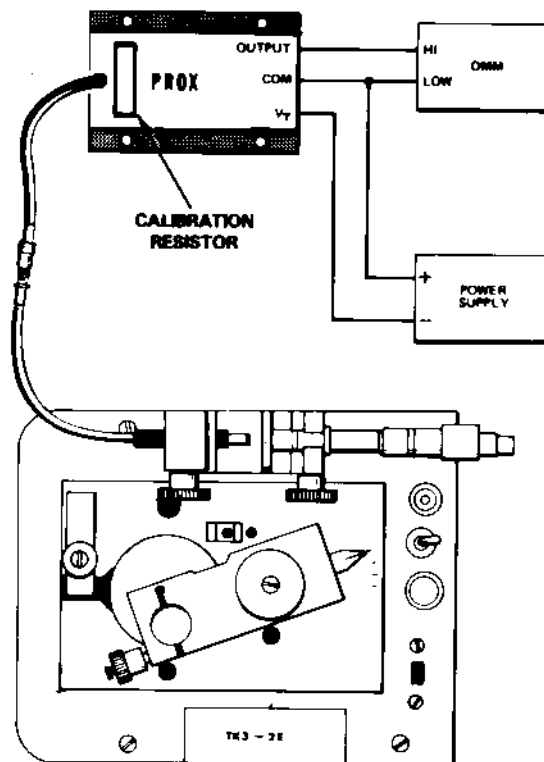

Figure 3-1. Test Equipment Setup
- a. Connect test equipment as shown in Figure 3-1.
- a. Remove the protective assembly from the calibration resistor on the Proximitor (use a screwdriver to pry away the outer barrier). Desolder and remove the calibration resistor (see Figure 3-1).